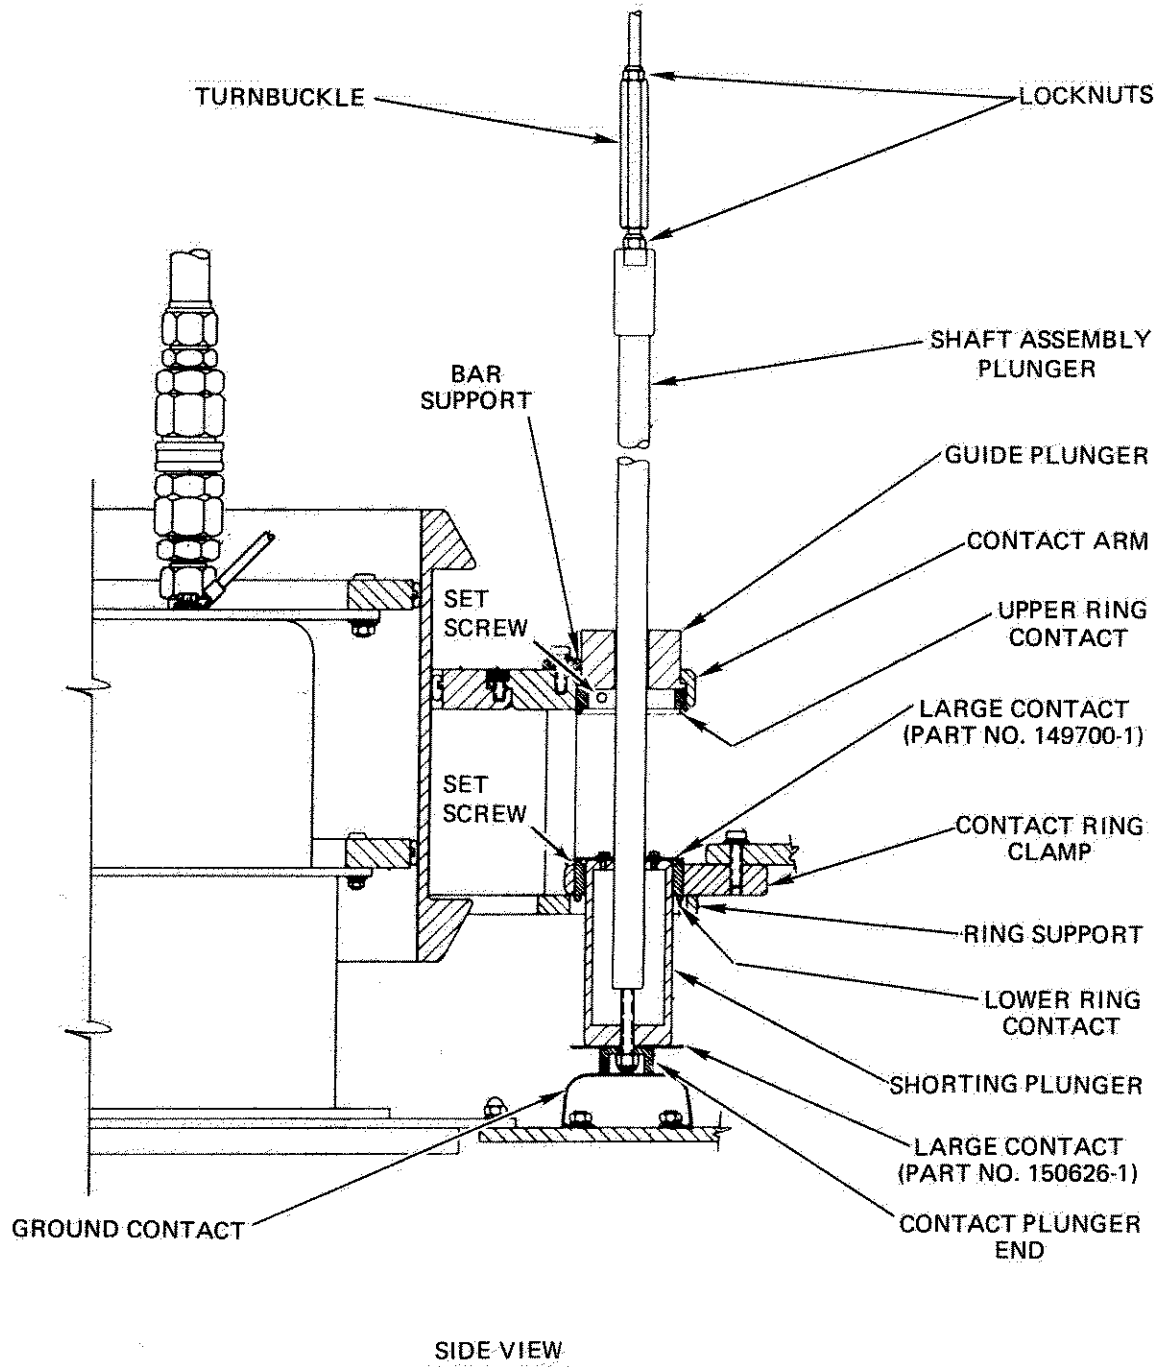

Figure 6-113. PA Band Switch Component Location, Bands E and F
2. Verify nut at plunger contact end is tightened (Figure 6-113).
5. Adjust Bands E and F pneumatic cylinders (Figure 6-113). Turn upper speed adjustment screw cw until it bottoms out, then ccw one full turn. Turn lower speed adjustment screw cw until it bottoms out, then ccw 5/8-turn. Turn both upper and lower cushion adjustment screws cw until they bottom out, then ccw one full turn.